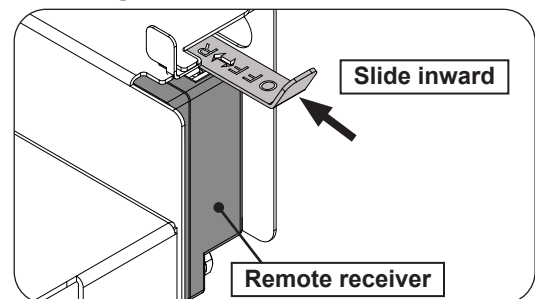

Fig. 26-2
2. Locate the OFF/REMOTE slide actuator on the right rear of the burner. Slide the actuator inward to the **REMOTE** position. See Fig. 26-2.